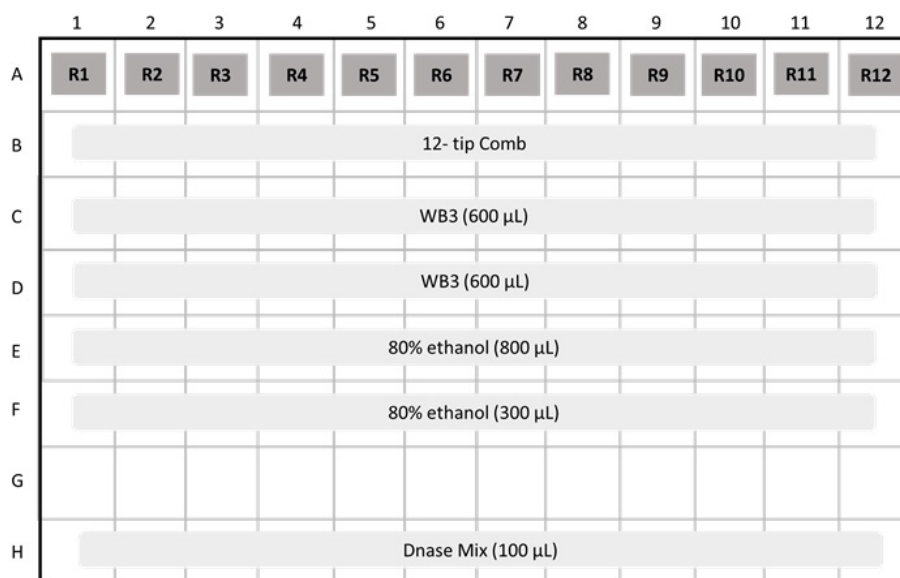

Figure 2. RNA with DNase Plate Layout.
2. Incubate 2 ml microcentrifuge tube with the RNA-containing supernatant at 80 °C for 30 minutes. Remove tubes from the heat block and cool at room temperature for 3 minutes. A schematic plate map for RNA purification on the KingFisher Duo Prime Purification System is shown in Figure 2.
7. Pipette each of the samples into Row A of a deep well 96 plate, following the layout in Figure 2.
9. Set up the remainder of the RNA Plate as shown in Figure 2. (Use as many wells as needed per the number of samples.)